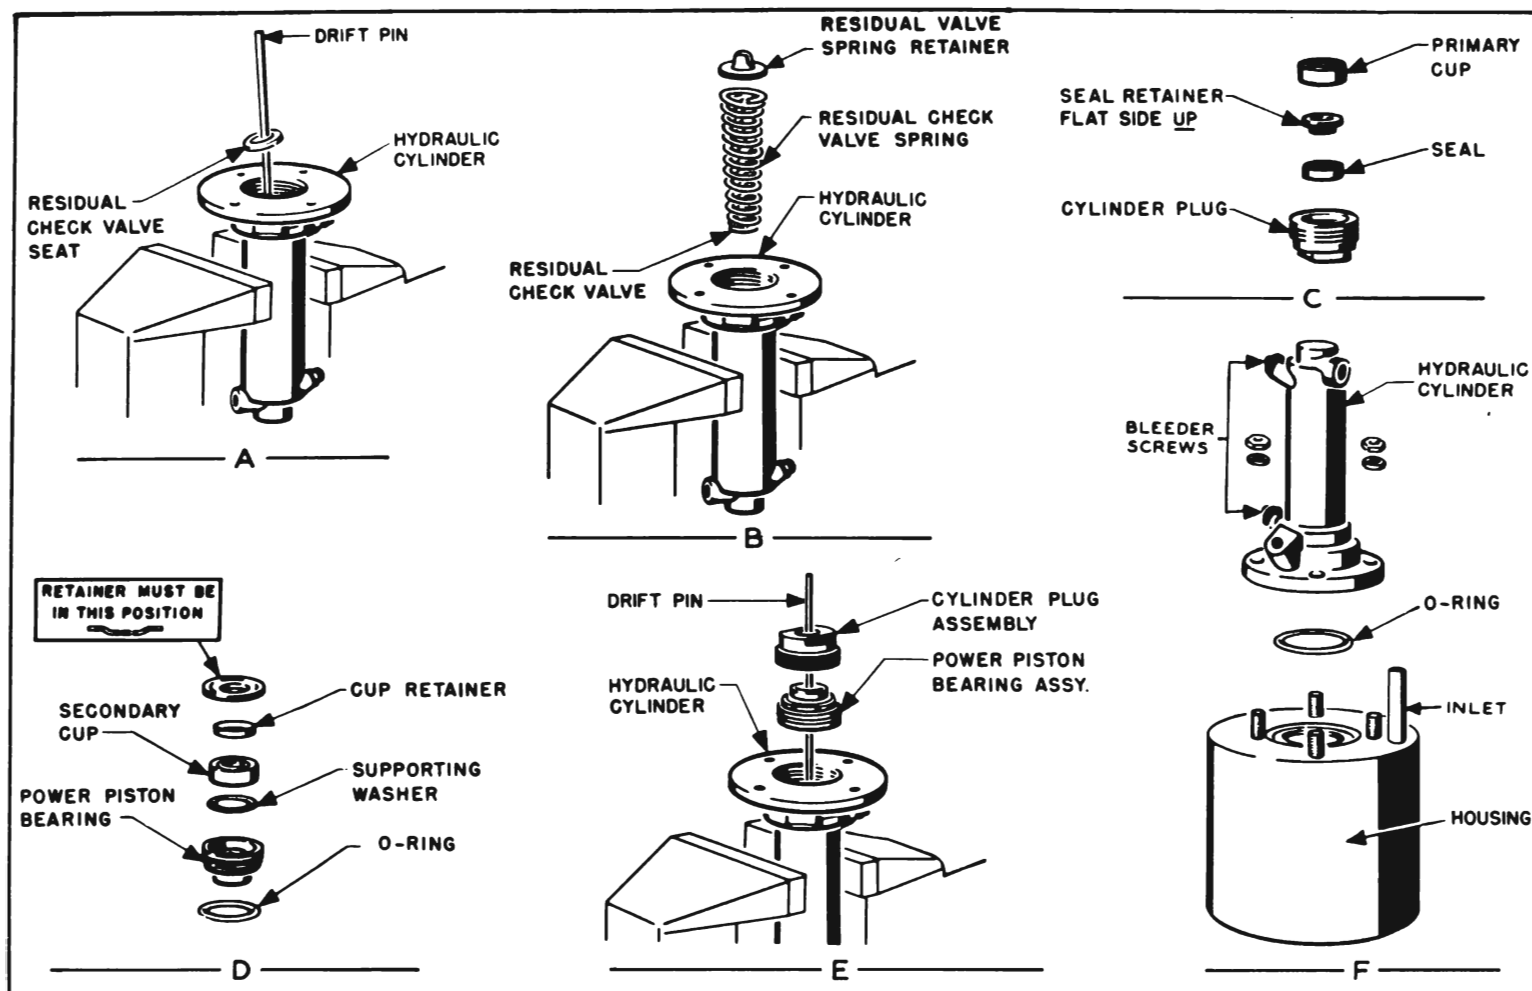

Figure 8-11—Assembly of Hydraulic Cylinder
1. Mount hydraulic cylinder in vise with flange end up, and drop a *new* residual check valve seat into lower end of cylinder. Dropping the seat over a drift pin will guide it into proper position. See figure 8-11, view A.
2. Press a *new* residual check valve assembly into small end of valve spring, then install spring in cylinder with the valve resting squarely on the valve seat. Place spring retainer on upper end of spring with *small end up.* See figure 8-11, view B.
3. Install a *new* seal, seal retainer with *flat* side outward, and a *new* primary cup in the cylinder plug as shown in figure 8-11, view C.
4. Install a *new* O-ring in outside groove in power piston bearing, install blue support washer (if removed) then install a *new* secondary cup with lips outward. Install ring type cup retainer, then install flat retainer with *concave* side outward. See figure 8-11, view D.
5. Lubricate O-ring with brake fluid and install power piston bearing assembly in hydraulic cylinder with cup retainer end *down*. Use a drift pin to hold the residual check valve spring down while installing the cylinder plug assembly in cylinder. Screw plug down by hand then use a wrench to tighten it firmly, but *do not* use force. See figure 8-11, view E.
6. Place a *new* O-ring around the cylinder plug, then install hydraulic cylinder on housing with the bleeder screws on the *opposite* side from the housing vacuum inlet. Install lockwashers and nuts on studs *but do not* tighten. See figure 8-11, view F.